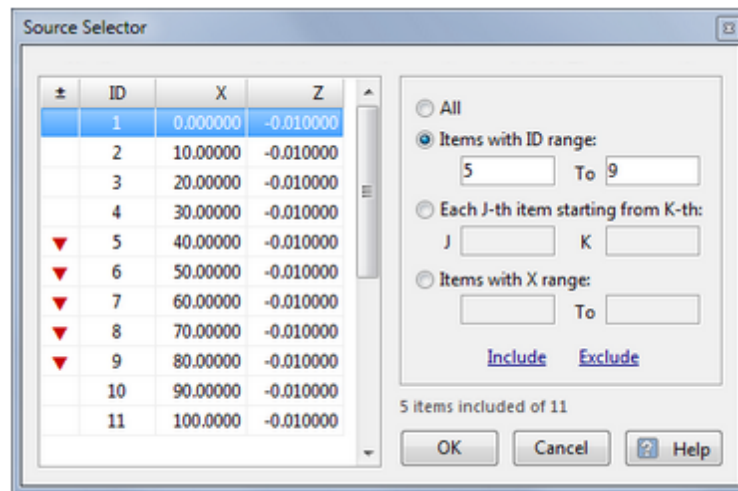

Fig 3. Sampling sources.
Sampling sources and receivers is performed in the dialog *Source/Receiver Selector*, partly shown on fig. 2a. The full view is on fig. 3.
The left panel displays the source list, in which some items are marked with icons and the others – not. An item with the icon is included in the sample, an item without it is not. There may be items in the list excluded due to errors. They are simply ignored. To change an individual item's state, double-click on it. To change the state of a group of items, use controls on the right panel to perform the following group operations: (1) include/exclude all items; (2) include/exclude items with IDs from the specified range; (3) include/exclude each J-th item starting from the K-th one; (4) include/exclude items with x-coordinate falling into the specified interval. Click on the option radio-button, enter parameters (J, K, or range bounds), if necessary, and, finally, click on the *Include* or *Exclude* link. Mind that "Include" does not mean "include only": items not satisfying the condition might be selected earlier, and they stay included. For example, to get the selection shown on fig. 3, one should, first, click *All*, *Exclude*, then *Items with ID range*, then enter 5 and 9 and then click *Include*. After clicking on *OK*, the drop-down list *Sources* of the main window changes according to the sample.